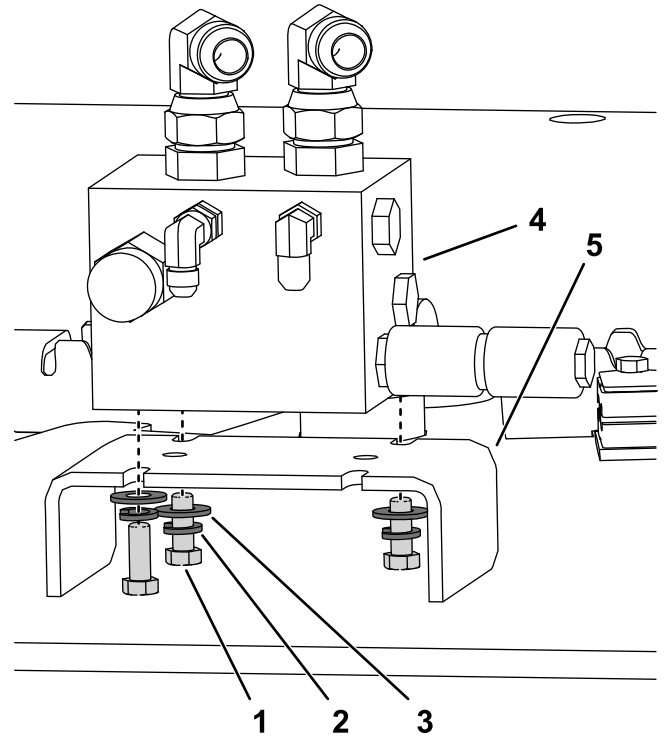

Figure 2
4. Secure the manifold assembly to the hose mount with 3 bolts (3/8 x 1 inch), lock washers and flat washers (Figure 2).